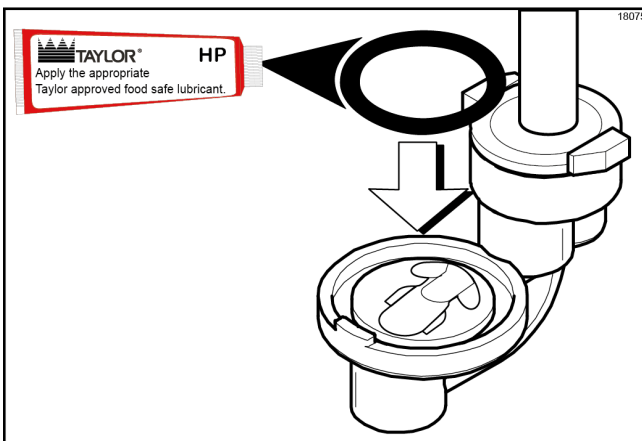

Figure-94
9. Lubricate and install the 1-5/16 in. O-ring into the valve body. (See Figure-94)